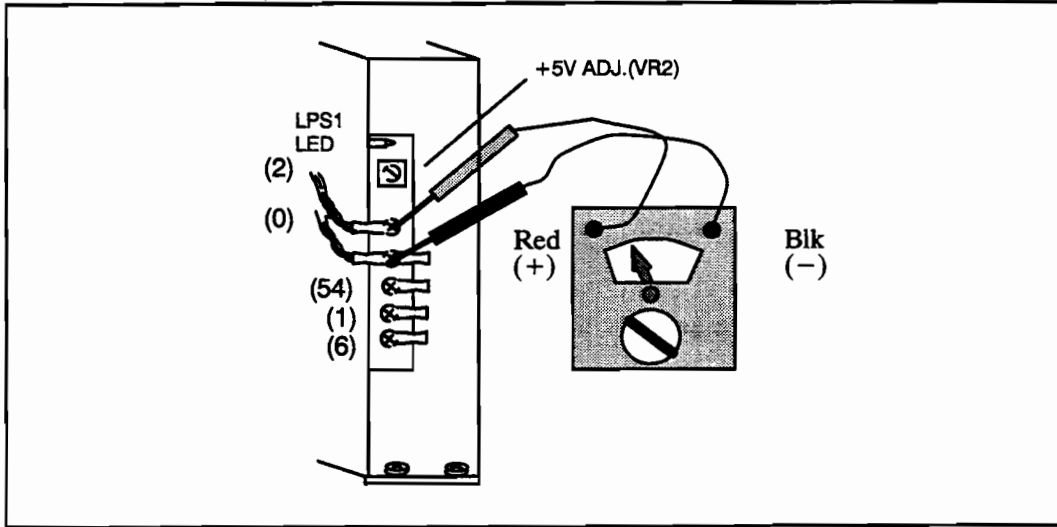

Figure 7-17. +5 V Power Supply Adjustment
1. Turn the plotter line switch to OFF (O).
4. Connect the voltmeter probes to the two screw terminals as shown in Figure 7-17.
5. Turn the plotter line switch to ON (I).
7. Switch the plotter OFF (O) and remove the voltmeter probes.